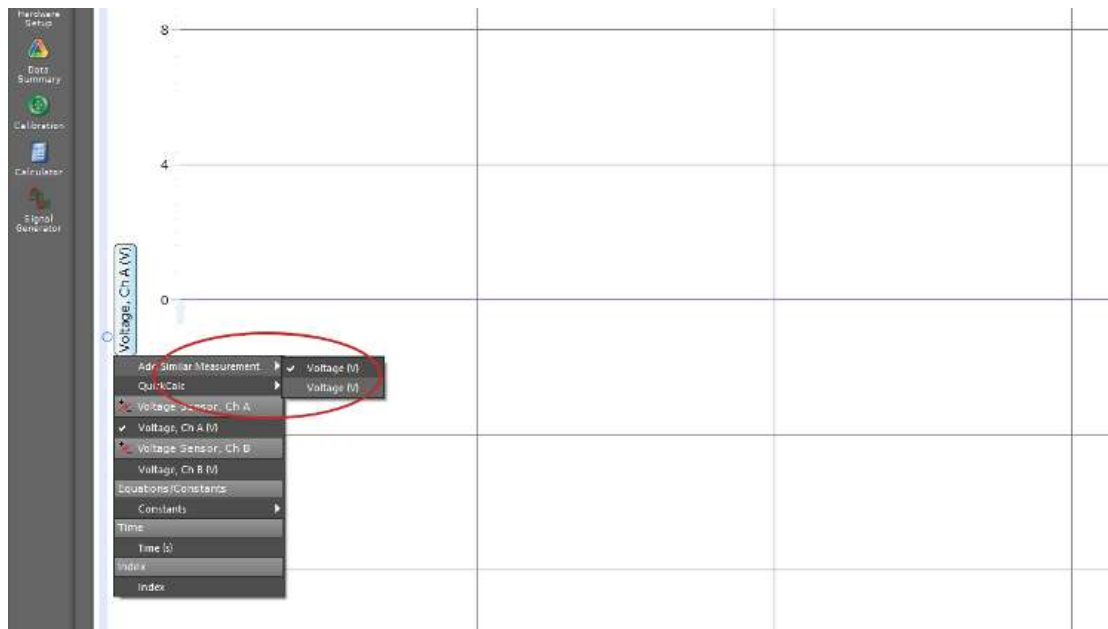

Figure 8
To display the voltage across the capacitance, click on **Voltage Ch A (V)** along the left of the display (fig 8), and select the second voltage under **Add Similar Measurement**: